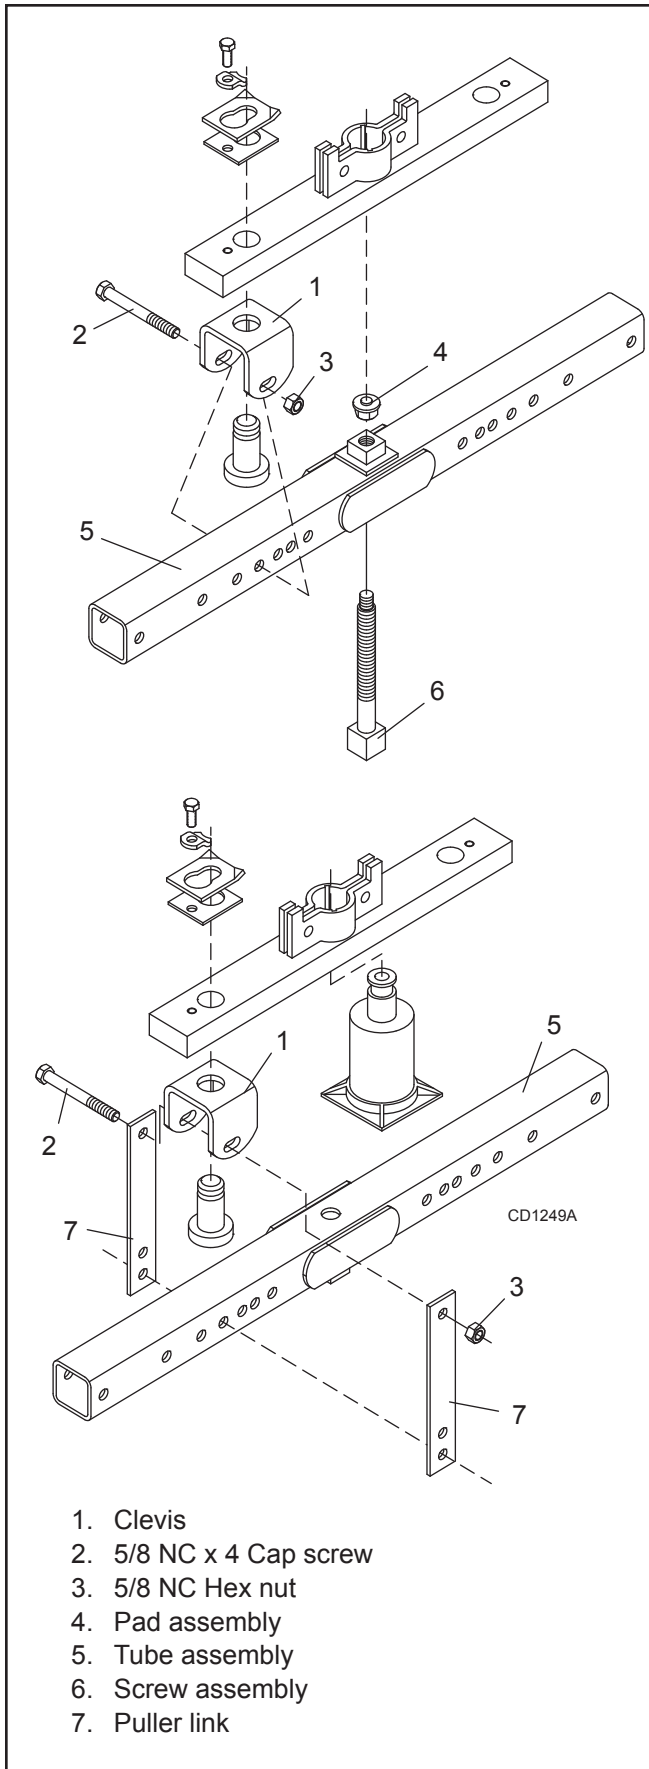

Figure 18. Crossbar Removal
NOTE: You will need to use either the puller screw (Item 6, Figure 18) or a small hydraulic jack to remove the crossbar.
3. Remove cotter pin (34) and castle nut (33) from bottom of crossbar.
4. Refer to Figure 18. Attach a clevis (1) to each end of crossbar, using blade pins, spacers, keyhole plates, and blade pin clips.
5. Position tube assembly (5) with threaded nut toward crossbar for puller screw removal or down for hydraulic jack removal.
6. For removal with puller screw, attach tube (5) to each clevis with bolts (2) and nuts (3). Place pad (4) in nut and thread puller screw (6) into nut from bottom. Tighten until pad is solid against gearbox shaft. For best results, strike head of puller screw with a hammer while tightening with a wrench.
7. For removal with a jack, attach tube to each clevis with puller links (7), bolts (2), and nuts (3). Place jack on tube with end of jack pressing against gearbox shaft. Slowly apply force with jack.